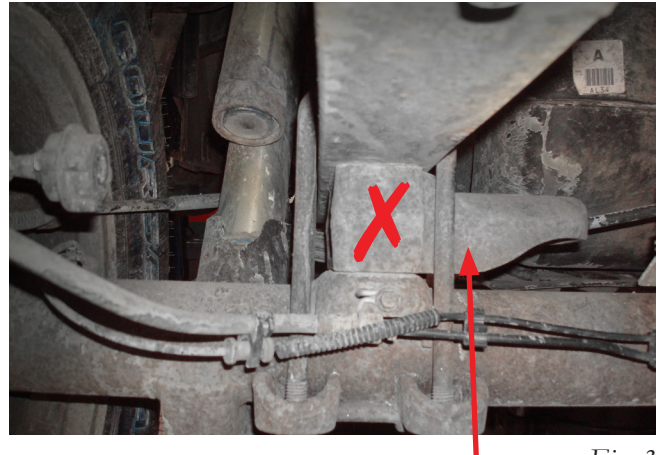

Fig. 3
IT WILL BE NECESSARY TO MOVE THE AXLE SPACER BLOCK/JOUNCE BUMPER STRIKE PLATE FROM ONE SIDE TO THE OTHER (FIG 3). THIS PROVIDES CLEARANCE FOR THE AIR SPRING ASSEMBLY, WHICH INSTALLS BETWEEN THE AXLE AND FRAME. CARE AND SAFETY MEASURES MUST BE TAKEN TO COMPLETE THIS TASK SAFELY AND SUCCESSFULLY.
2. Mark the back side of each jounce bumper strike plate/axle spacer for ease of reinstallation (Fig. 3).